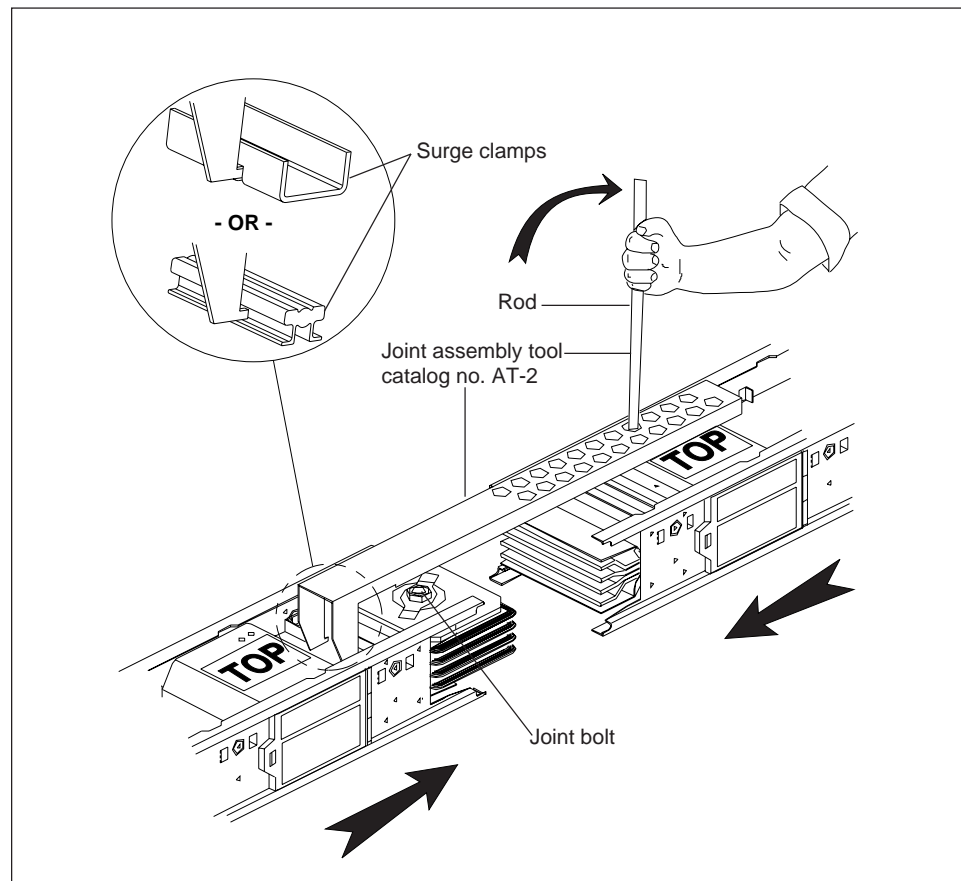

Figure 1: Joint assembly
3. With the busway ends in the position shown in figure 1, hook the joint assembly tool in the surge clamp on one busway and insert the rod through the hole in the assembly tool and behind the surge clamp on the opposite busway. Use joint assembly tool, catalog no. AT-2.